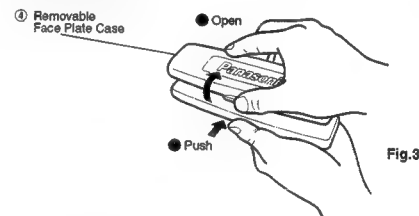

Fig. 3
- ④ As shown in Fig. 3, gently push the lower side of the case and open its cover. Keep the removable face plate in the case. Then, you can bring the plate safely.